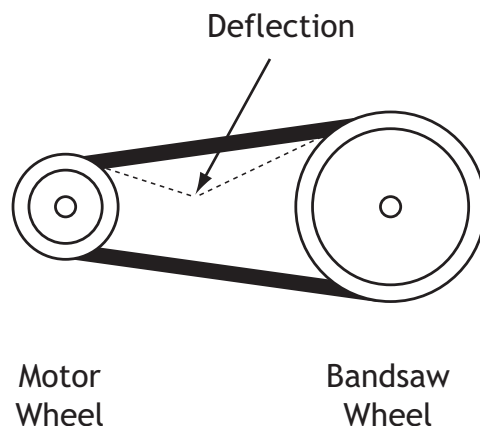

Figure 52. V-belt deflection.
4. Push the center of the V-belt. Note the amount of deflection (**Figure 52**). If deflection is more than $\frac{1}{4}$ ", tension the V-belt.